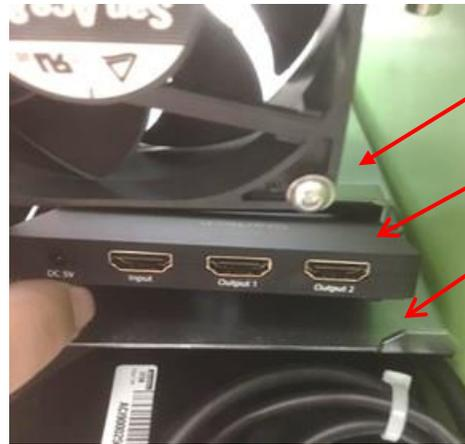

Figure 74: Removing HDMI Splitter
3. Lift the HDMI Splitter as shown on Figure 74 and remove it from the system.
1. Place (push in) the HDMI Splitter under Splitter Clamp (PN 6926). HDMI splitter should fit tightly under the clamp and behind Splitter Mount front support (PN 6907) (refer to Figure 74).